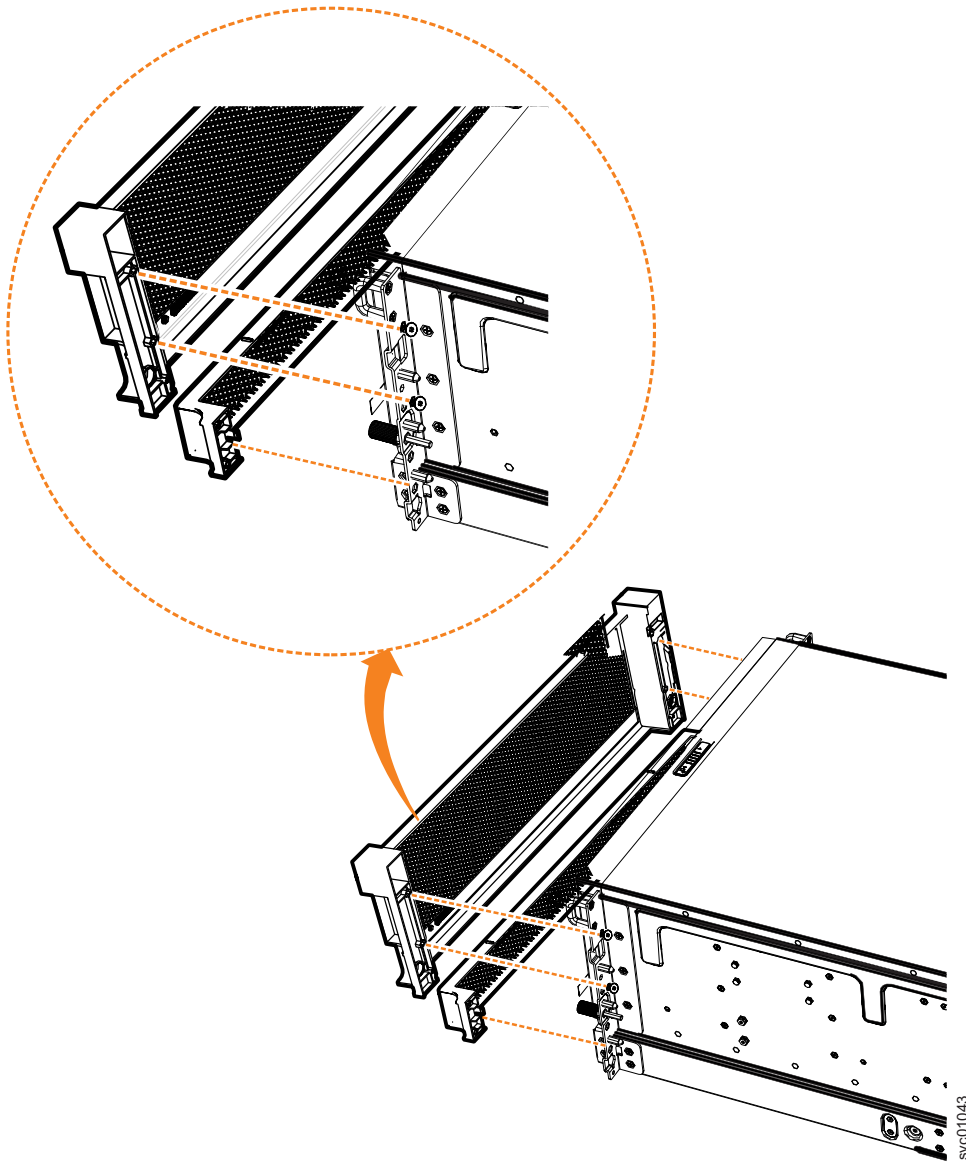

Figure 93. Remove fascia components from the expansion enclosure
2. Remove the front fascia by removing the two screws that attach the fascia to the flange on each side of the chassis, as shown in Figure 93 on page 96.
3. Gently pull on each side of the PSU fascia to remove it from the chassis, as shown in Figure 93. The PSU fascia will disengage from the slot and pin that connect it to each side of the chassis